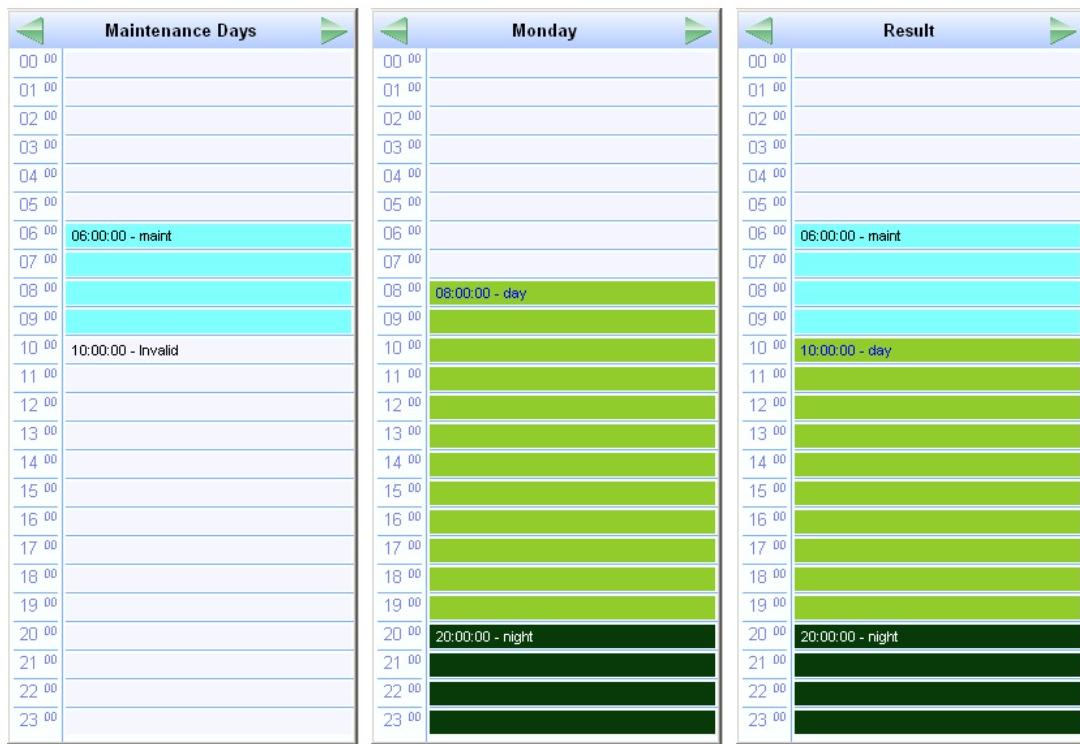

Figure 78: Example using withdraw in an exception schedule.
- **Withdraw:** If this value is scheduled, the scheduler takes the previously value preset out of effect. This means that the daily schedule with the next lower priority becomes effective. If no daily schedule with lower priority applies, the scheduler behaves as if it was disabled. Figure 78 presents an example of the *Maintenance* exception day, which schedules the *maint* value at 6 am and goes out of effect at 10 am. If the maintenance day falls on a Monday, the regular schedule for Monday will be overridden by the Maintenance schedule at 6 am and become effective again at 10 am sending the *day* value.